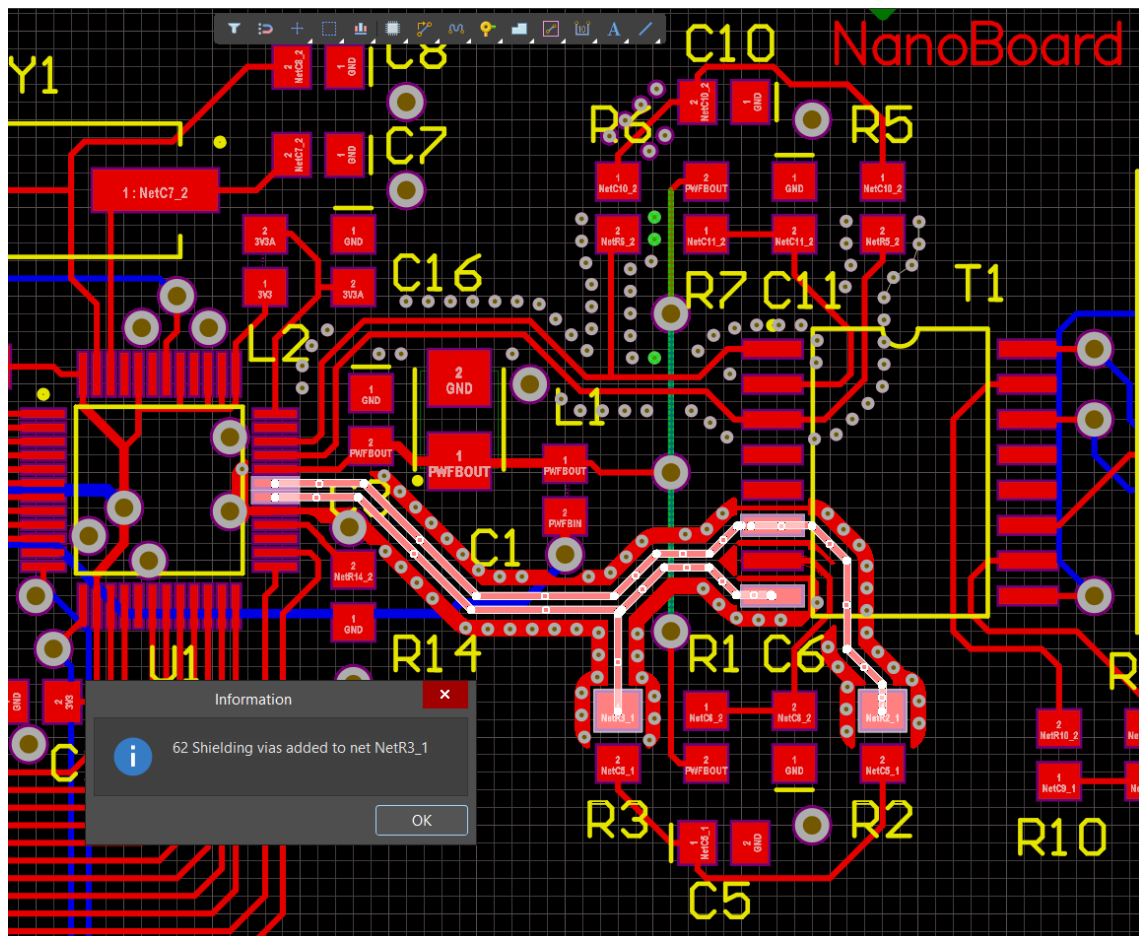

Figure 4. Shielding for NetR2\_1 and NetR3\_1
18. Using the same settings as for the first group, create the shielding for net NetR2\_1 and NetR3\_1, but now add the option to **Add Shielding Copper**. Use Figure 4 as reference.